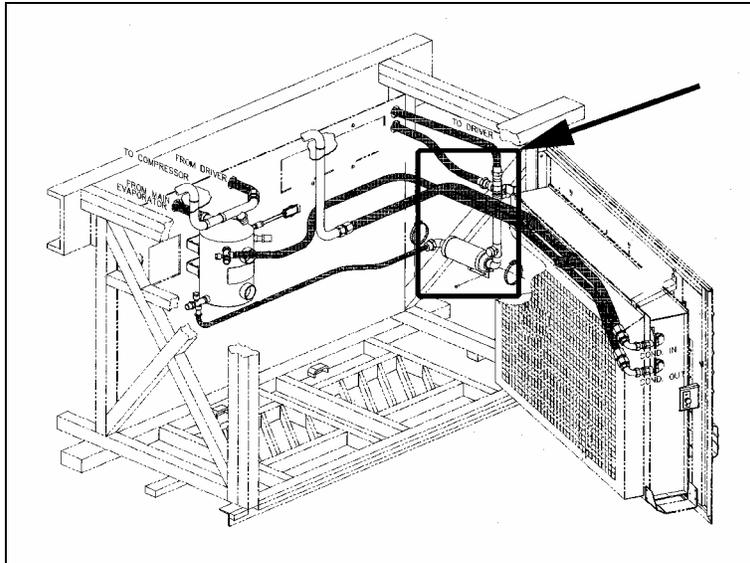

FIGURE 2 : ACTUAL FILTER DRYER TO REPLACE WITH PRÉVOST #453595
3. Disconnect the refrigerant hoses from the actual filter dryer assembly (figure 2 & 3).